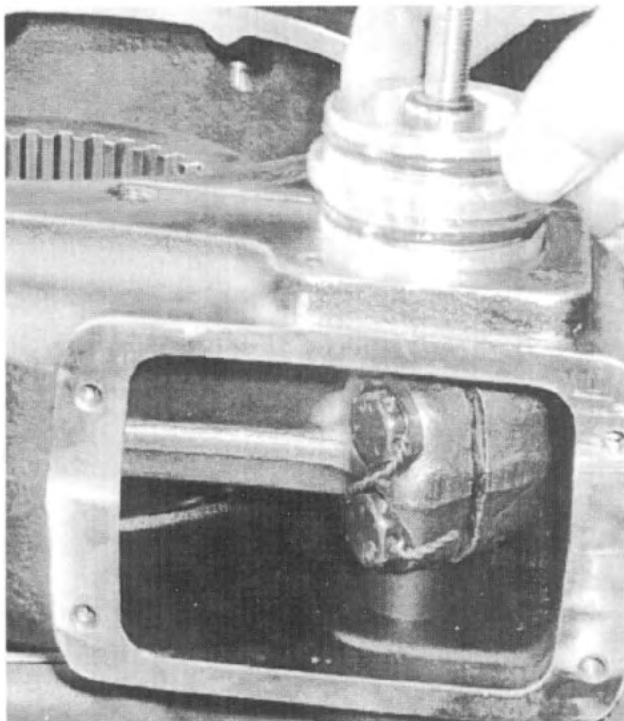

Fig. 81
21. Install the front declutch shift cylinder adapter into the declutch housing, using new o-rings. *See Fig. 81.*